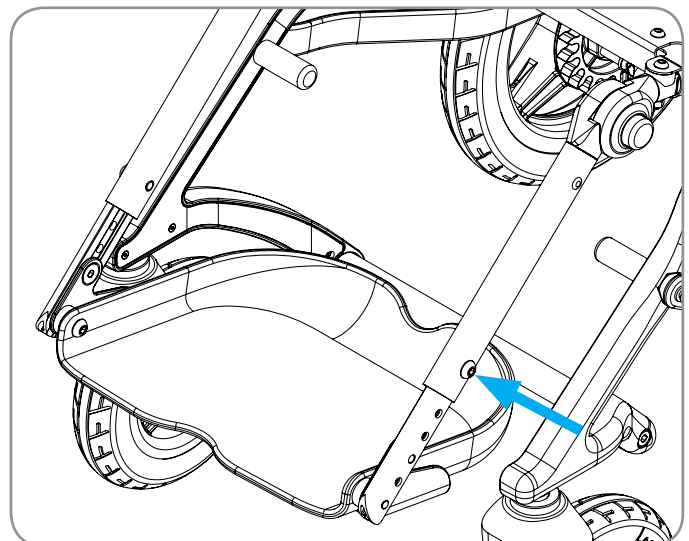

Figure 14
1. Remove left and right button head bolts, reference Figure 14. 5mm hex wrench required.
If your footbed is currently configured as shown in Figure 14, it may be necessary to adjust the footbed assembly downward on the footrest extensions (12" & 14" chairs only).